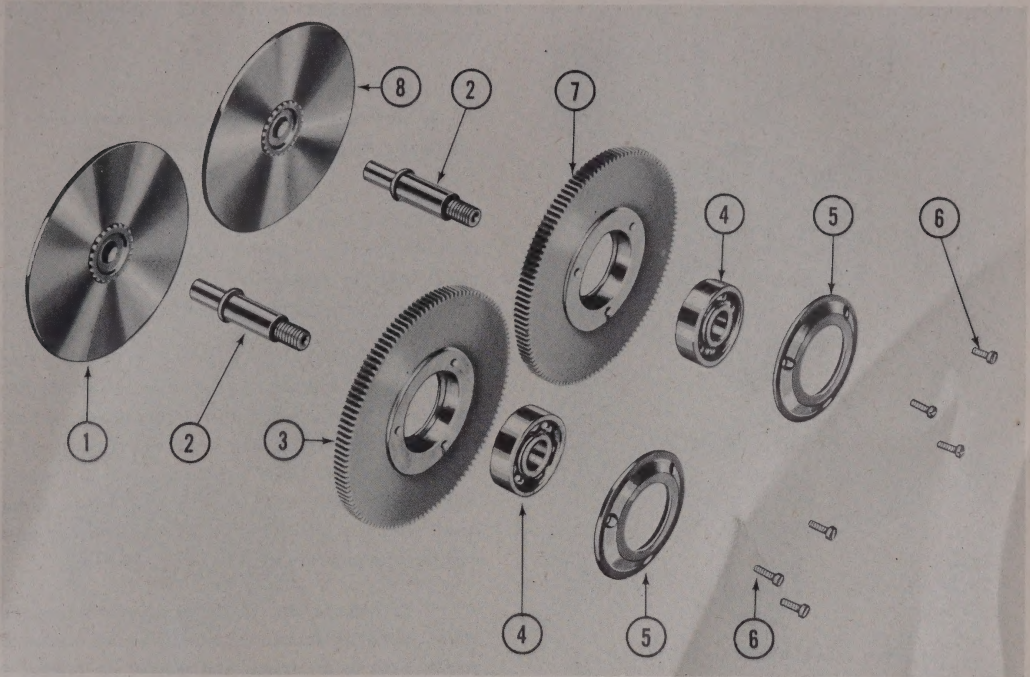

Figure 244 — Clutch and Gear Assemblies, Exploded View
(d) (See figure 244.) Lift the clutch and pinion assembly (1) from the bronze gear assembly (3), and scribe a single mark on the inside bronze hub of the clutch and pinion assembly (1). This will indicate that this particular clutch and pinion assembly is to be re-assembled to the bronze gear assembly (3). Lift the other clutch and pinion assembly (8) off the steel gear assembly (7).
(f) (See figure 244.) Remove the three fillister-head screws (6) holding the clutch gear ball-bearing retainers (5) to the gear assemblies (3 and 7), and